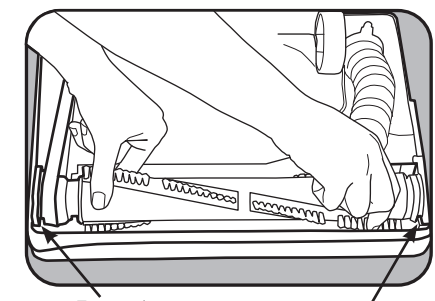
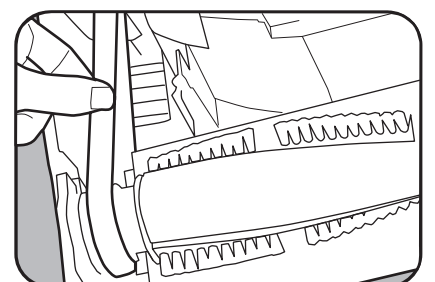

Fig. 4
Fig. 5
4. Reinsert the agitator assembly back into housing (Fig 4). Turn the agitator assembly by hand, making sure the belt is not twisted and all rotating parts move smoothly (Fig. 5). Make sure the arrows on the ends of the agitator are facing down into the nozzle.